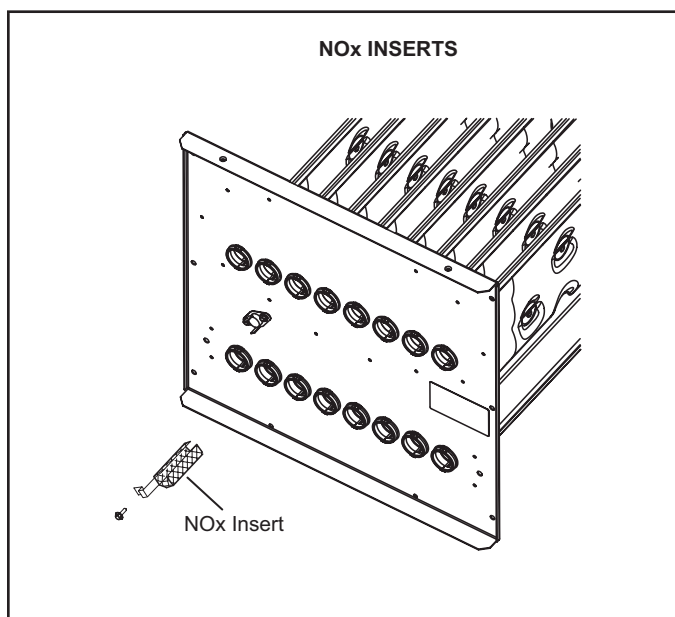

FIGURE 21
- 8 - **NOX units only** - Remove screw securing NOX insert. Remove NOX insert. See FIGURE 21.